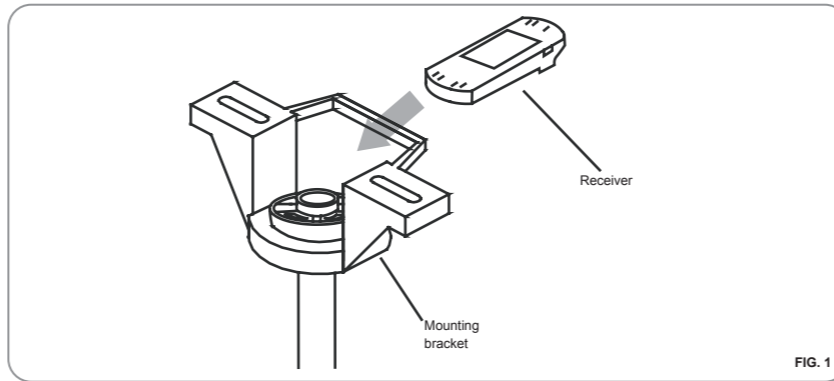

FIG. 1
- Step.1 Insert Receiver into Hanger Bracket with the flat side of the Receiver facing the ceiling. (Fig. 1)